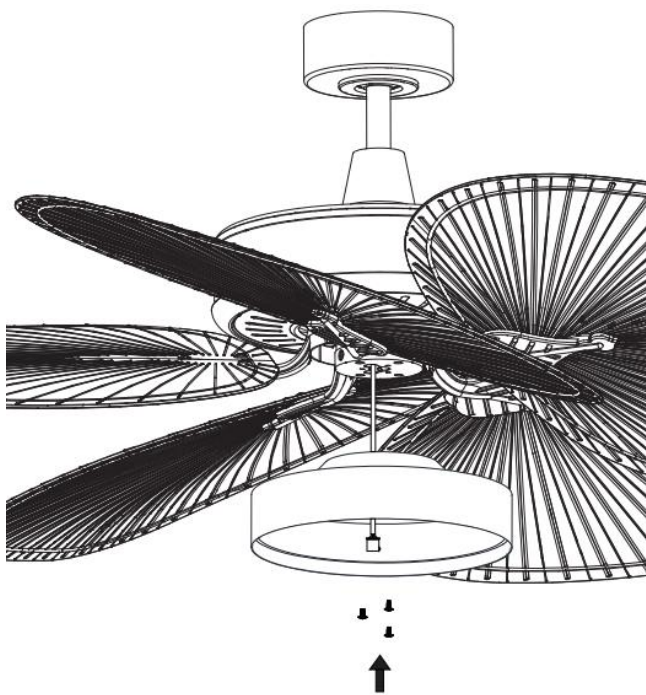

Fig. 9
- Instal the light kit plate onto the fan assembly by tightening the 3 screws. (Fig. 9)